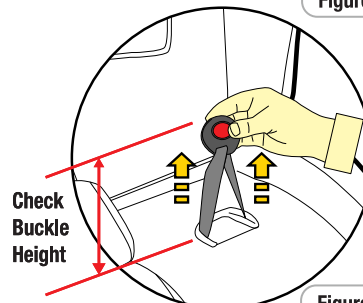

Figure 4
**Step 6:** Turn seat back to upright position & recheck buckle height (refer Figure 4).